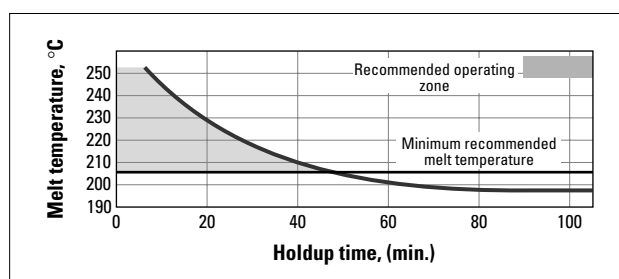

Fig. 3.01 Effect of temperature on Hold-up Time of DELIRIN®
in Fig. 3.01. Degradation of DELIRIN® will result in generation of gases which cause bubbles in the melt, splays on parts, mould deposit, yellow and brown marks on the parts.
With a screw stroke of 1 diameter (a small shot) and a cycle time of 1 minute (a very long one), the average HUT is equal to 8 minutes. According to the degradation curve Fig. 3.01, DELIRIN® should be stable enough for injection-moulding with this hold-up time at a melt temperature of 240°C. Some customers have experienced moulding DELIRIN® successfully at that temperature.
- **Material sticking to “hot” steel.** Due to the high viscosity of polymers, the speed next to the steel of the injection unit (screw, back flow valve, adaptor, nozzle and hot runner) is almost zero and the residence time is almost infinite (all moulders know how long it takes to change colors in an injection unit). Whereas inside the barrel the molten polymer is cleaned by the screw and the valve, inside all other areas the material will stick to the walls. To withstand a very long residence time, the steel in contact should be controlled at a temperature lower than 190°C (see Fig. 3.01).